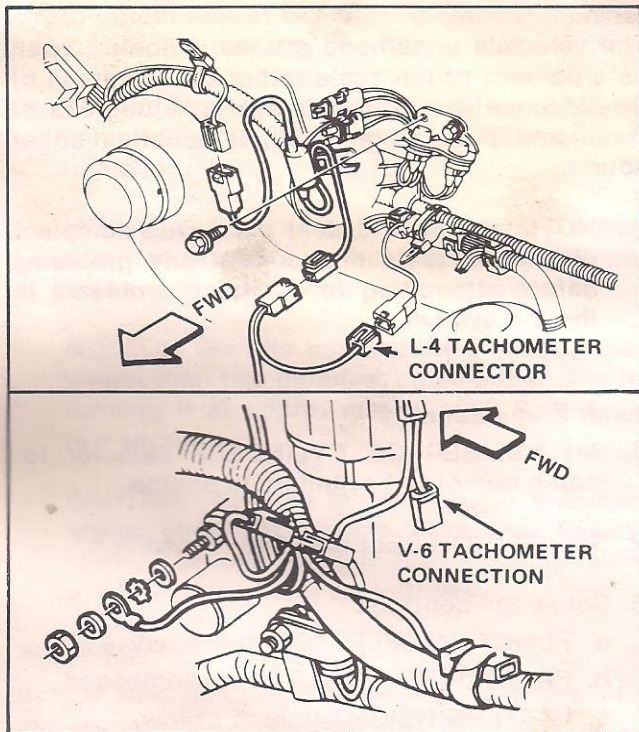
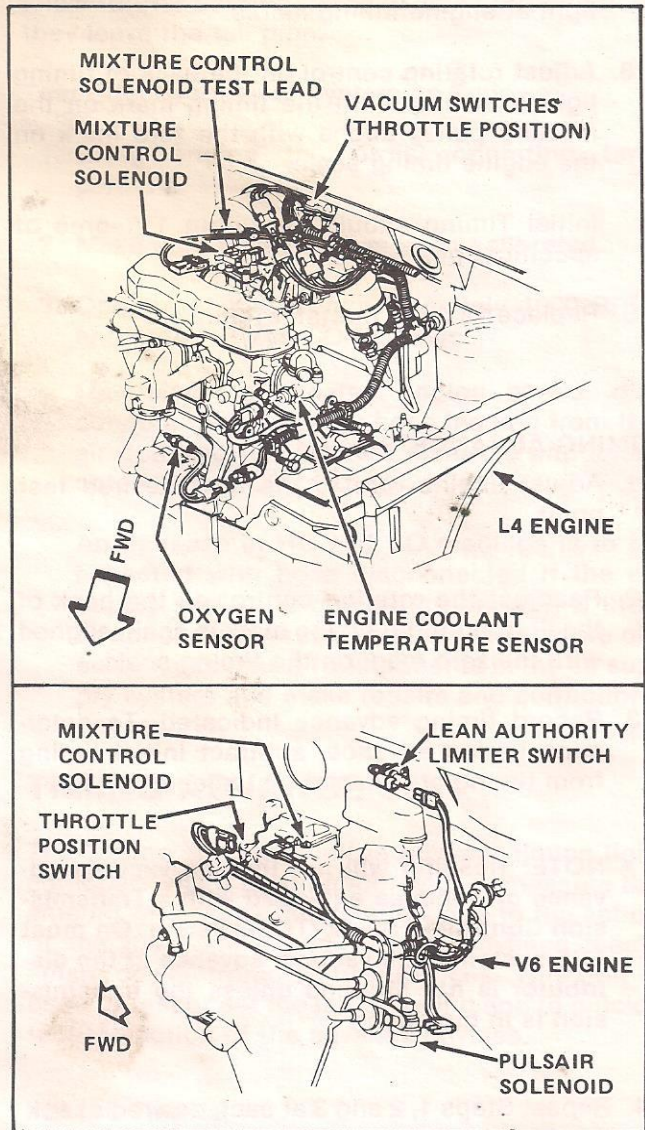

FIGURE 24—Tachometer test connections.
FIGURE 25—Blue primary dwell lead connected at Mixture Control Solenoid.
- b. Remove Blue Primary (dwell) lead from tach terminal and connect to the MCS test terminal (Figure 24). The mixture control solenoid test connector is attached to the vehicle wiring harness at the mixture control solenoid on the carburetor (Figure 25).